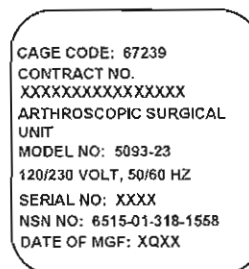

Figure 1-17. Case manufacturer data plate.
(9) A case manufacturer data plate (located on the front side of the shipping case) is depicted in figure 1-17.